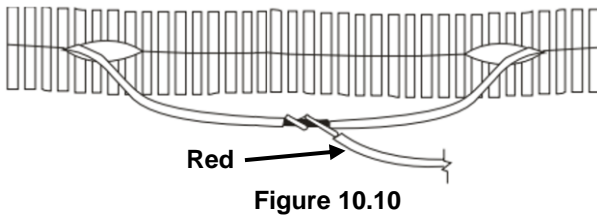

**Figure 10.8**
- Route the long red wire from the relay module into the bottom of the fuse box (Figure 10.8).